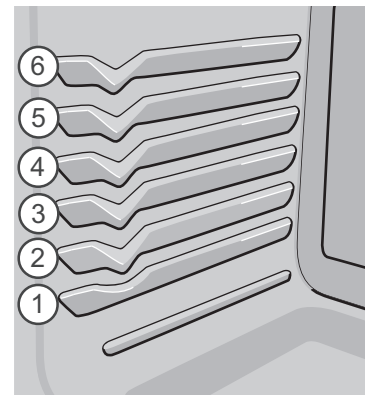

Figure 25: Oven rack positions
- Place pan in oven on either rack position 2 or 3 (Figure 25) and close oven door. AccelaHeat™ is designed for baking on a single oven rack placed in the center of the oven.